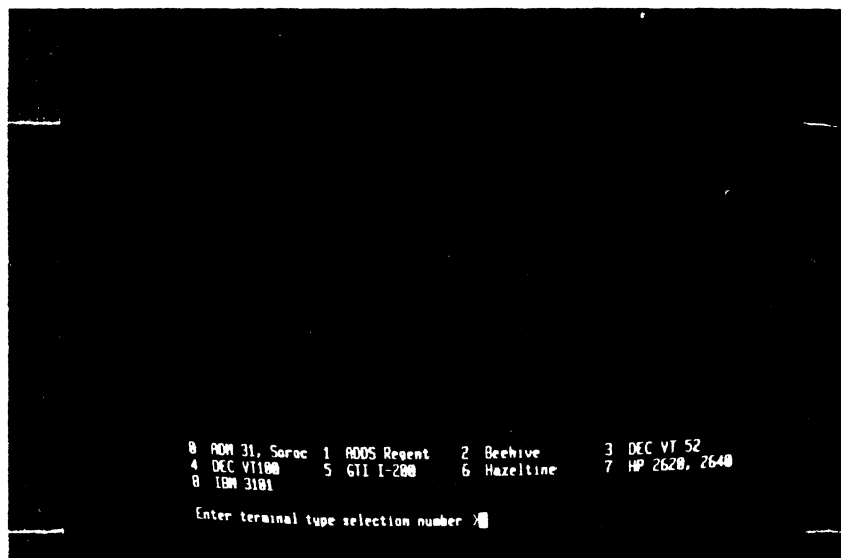

Figure 3-6. The Terminal Selection Screen
3. Press RETURN once (on the terminal keyboard). Z-SCAN uses this character to complete the baud rate synchronization with the terminal and then display the Terminal Selection screen. This display is shown in Figure 3-6.